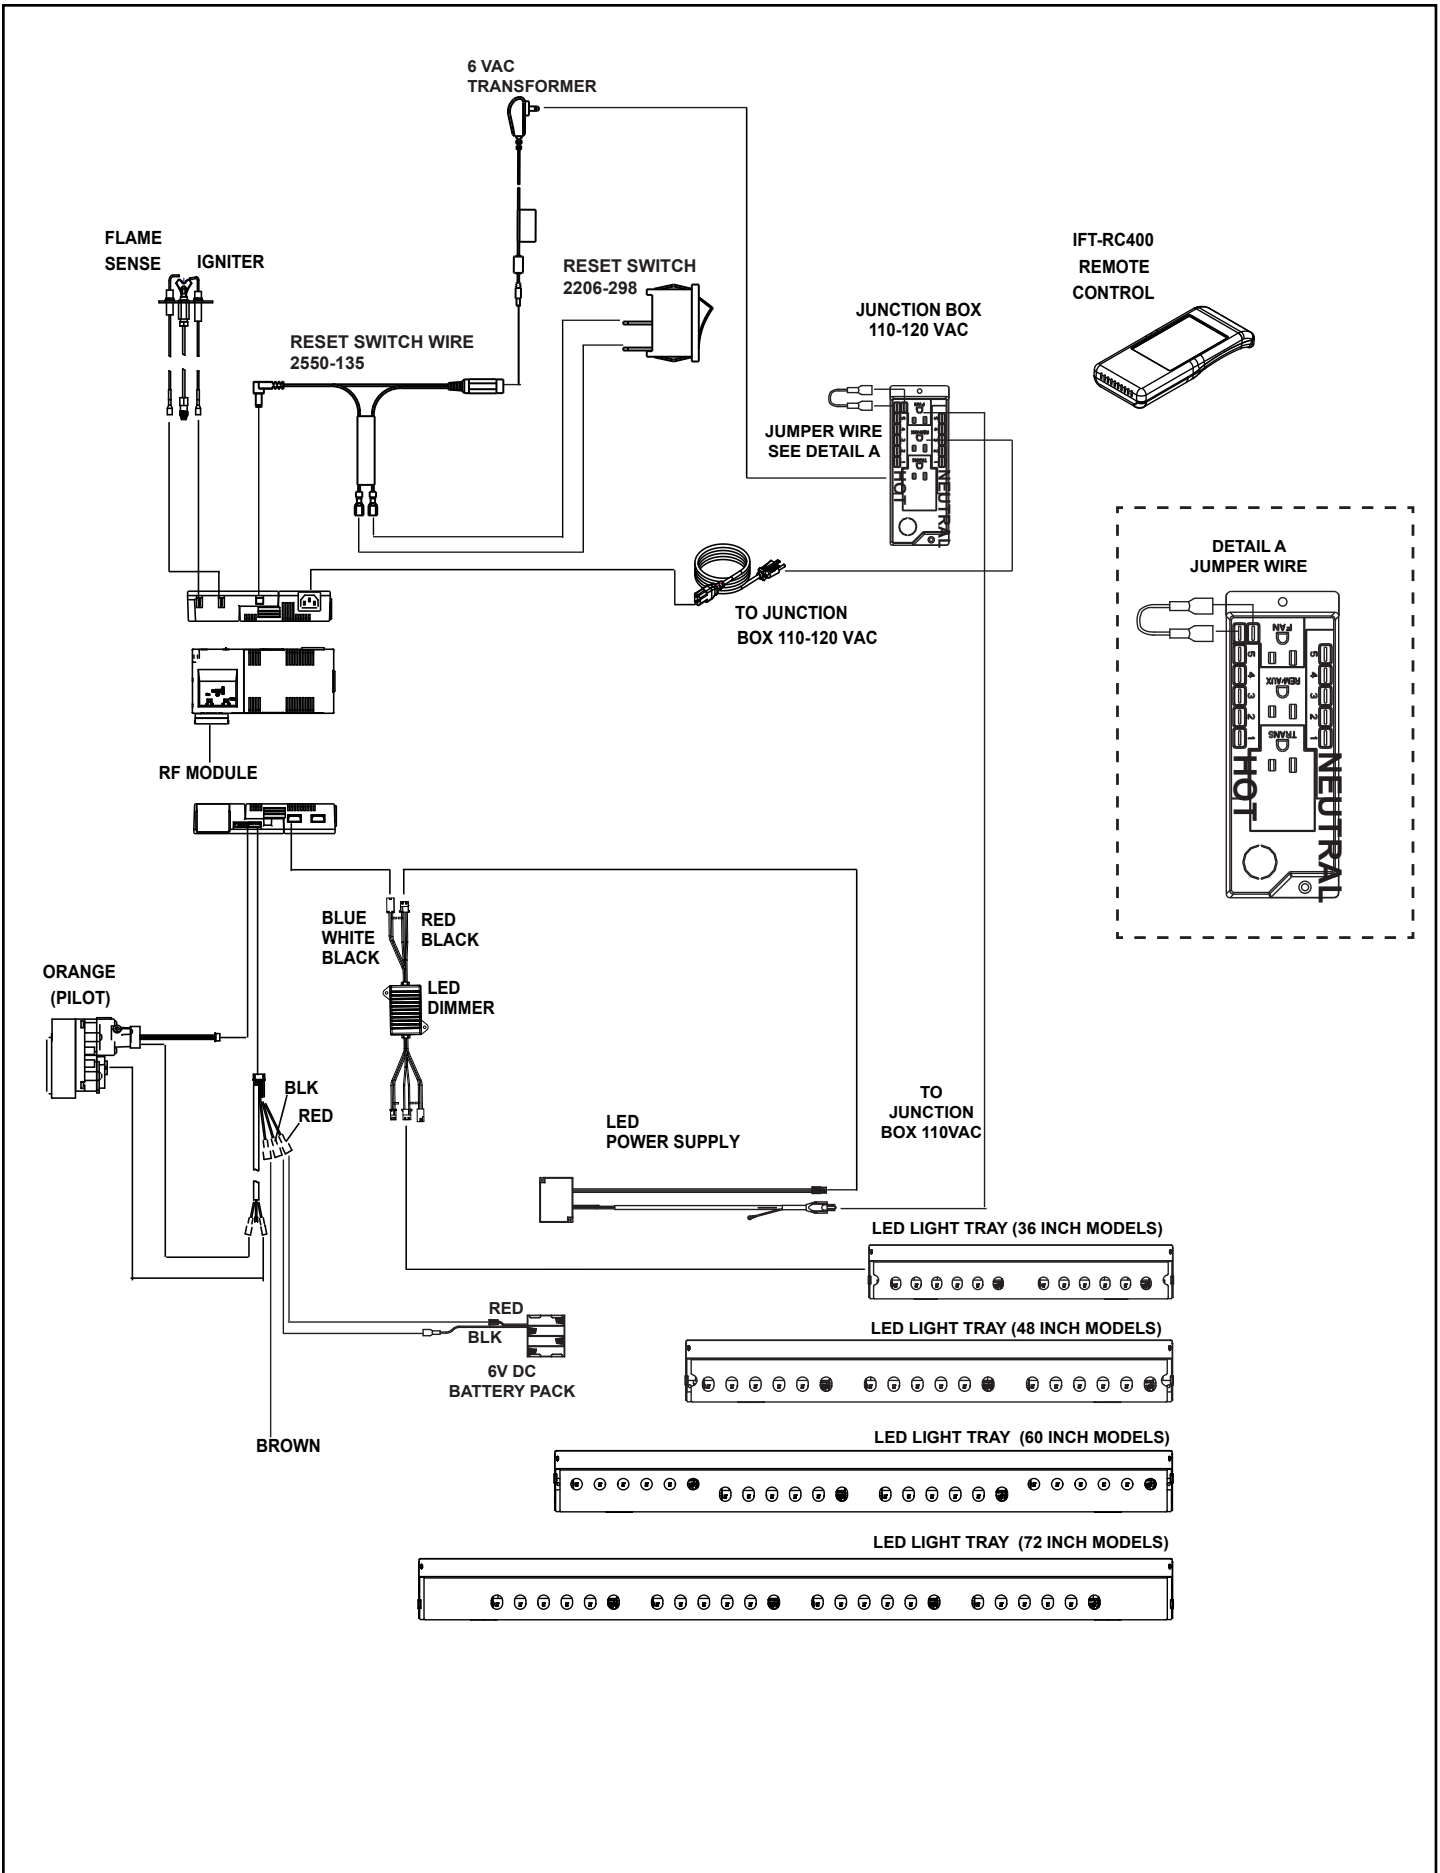

Figure 8.4 IntelliFire™ Touch Wiring Diagram
- Refer to Figure 8.4 IntelliFire™ Touch (IPI) Wiring Diagram.
The junction box, control module, LED power supply and wall switch receiver can be accessed by removing the bottom glass shield and component heat shield. The decorative barrier front must be removed to access these components. See Figure 8.4.